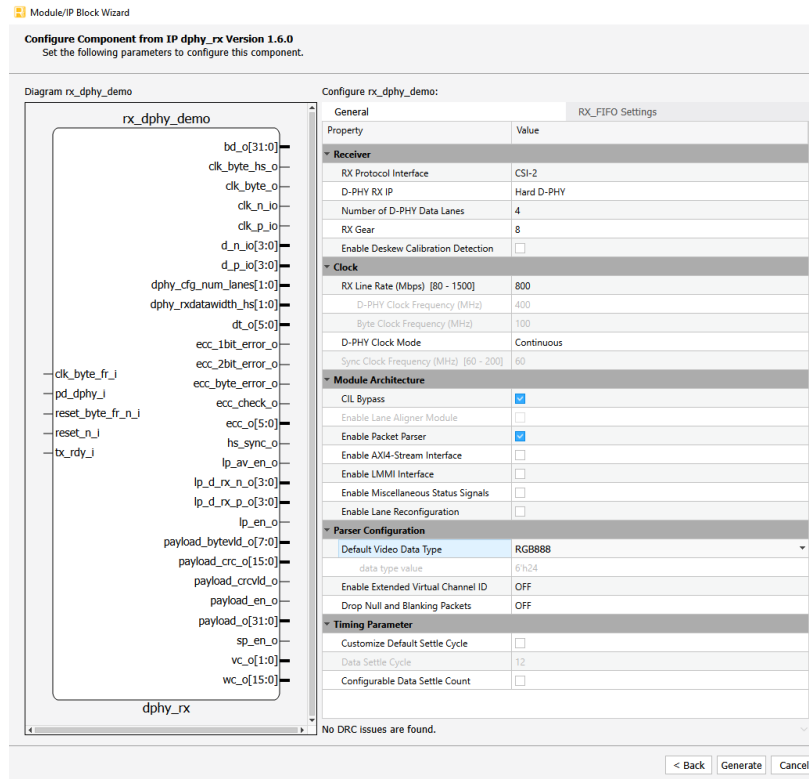

Figure 6.2. IP Configuration
3. In the next **Module/IP Block Wizard** window, customize the selected CSI-2/DSI D-PHY Receiver IP using drop-down lists and check boxes. Figure 6.2 shows an example configuration of the CSI-2/DSI D-PHY Receiver IP. For details on the configuration options, refer to the IP Parameter Description section.